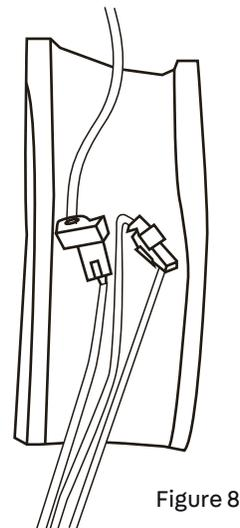

Figure 8
3. Connect the wires of the internal and external units – see Figure 8.